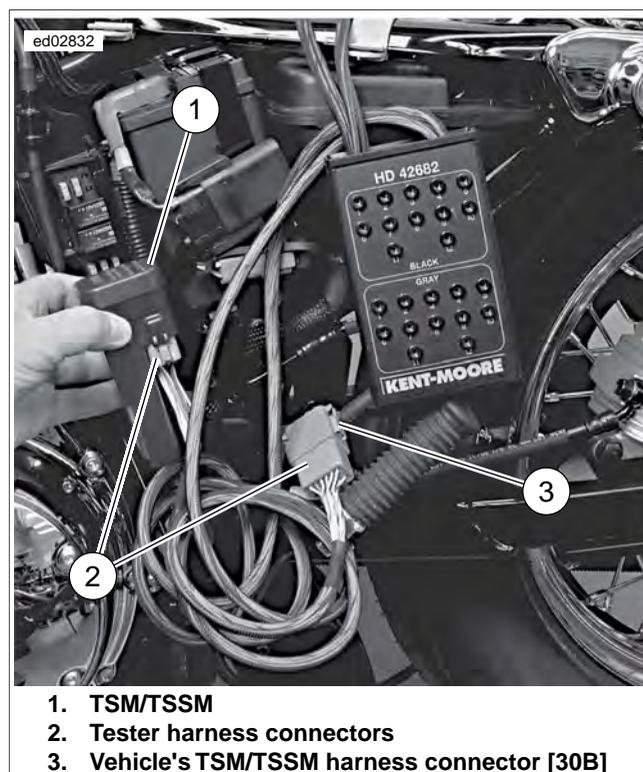

Figure E-13. TSM/TSSM Location
2. See Figure E-13. Reach under battery tray and lift TSM/TSSM from cavity in bottom of tray.